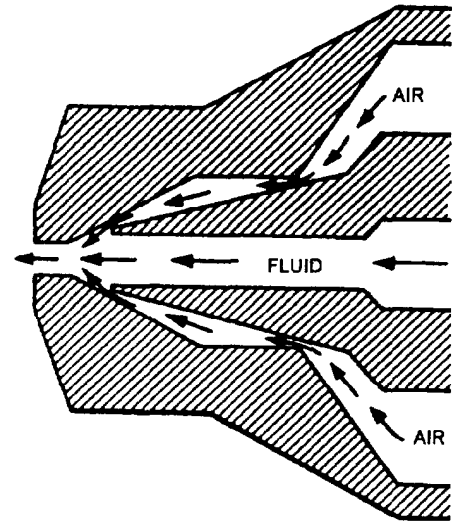

Figure 1-16.—Internal-mix air cap.
- **Internal mix gun:** In an internal-mix gun, the air and the paint are mixed within the internal-mix air cap. In this type of gun, atomization of the paint is coarse, and the spray pattern is fixed. The gun works only with a pressure feed, but the pressure is lower and the amount of air used is less than for the external-mix gun. Because atomization of the paint is coarse, more paint is applied on each pass. See figure 1-16.